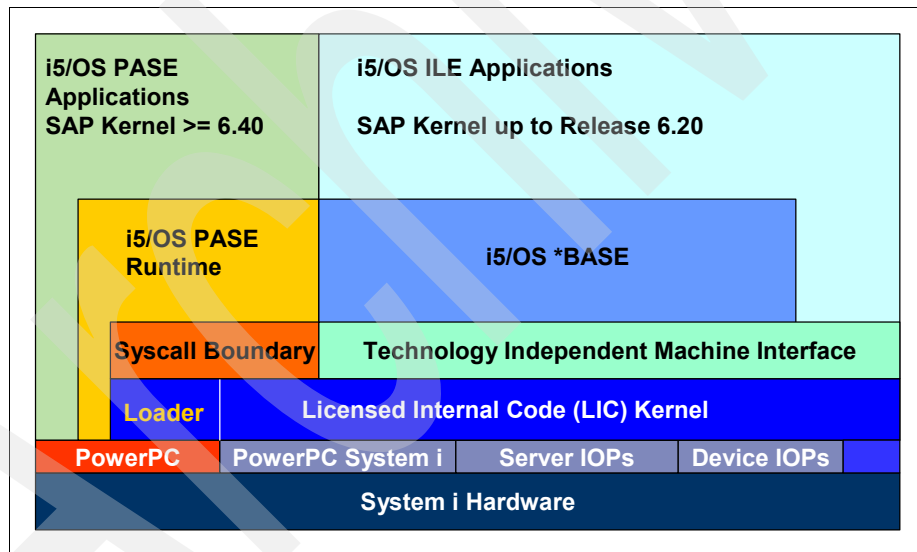

Figure 8-2 The System i layered architecture
System i architecture is based on layers, as illustrated in Figure 8-2.
The right side of Figure 8-2 illustrates the layered architecture of *i5/OS*. All applications and the base operating system are based on an architecture known as *technology independent machine interface* (TIMI) or more simply referred to as the *machine interface* (MI). If the underlying hardware changes with new models, you only need to adjust the system licensed internal code (SLIC), more simply called the *licensed internal code* (LIC). You do not need to recompile the applications. You may need to retranslate only the internal code representation. This is usually done at “first touch” and does not require user intervention.